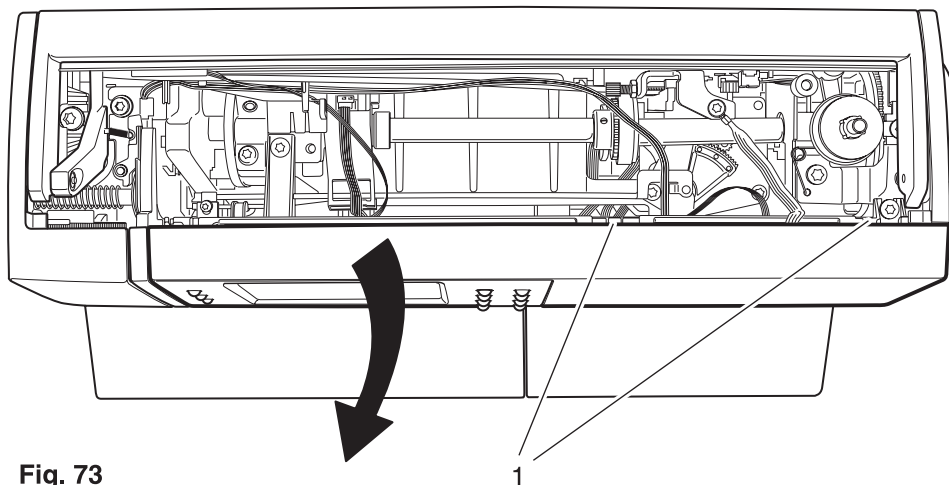

Fig. 73
- Slightly raise both lugs 1 and remove the facing panel of the front housing panel by swiveling it downwards (fig. 73).
- Mount the facing panel onto the front housing panel, making sure that both lugs 1 lock into place (fig. 73).